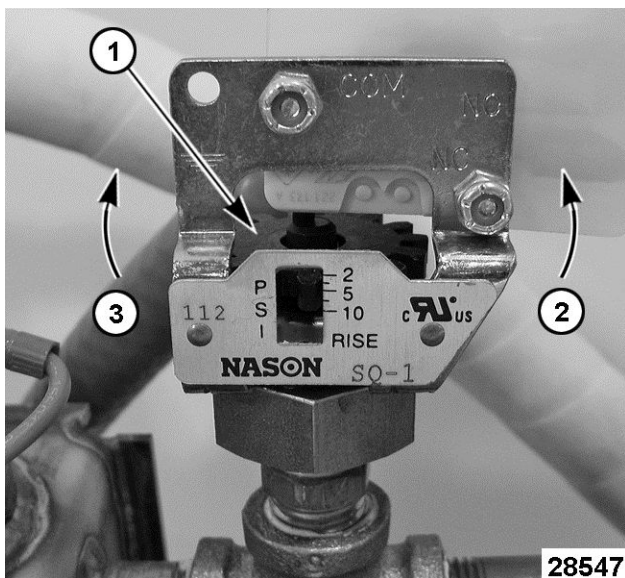

Fig. 81
- 2. Referring to cut-out pressure recorded in Check procedure, turn adjustment wheel [1] Fig. 81 to bring cut-out pressure into tolerance.
- 1) Turn adjustment wheel CCW [2] Fig. 81 to decrease cut-out pressure.
- 2) Turn adjustment wheel CW [3] Fig. 81 to increase cut-out pressure.